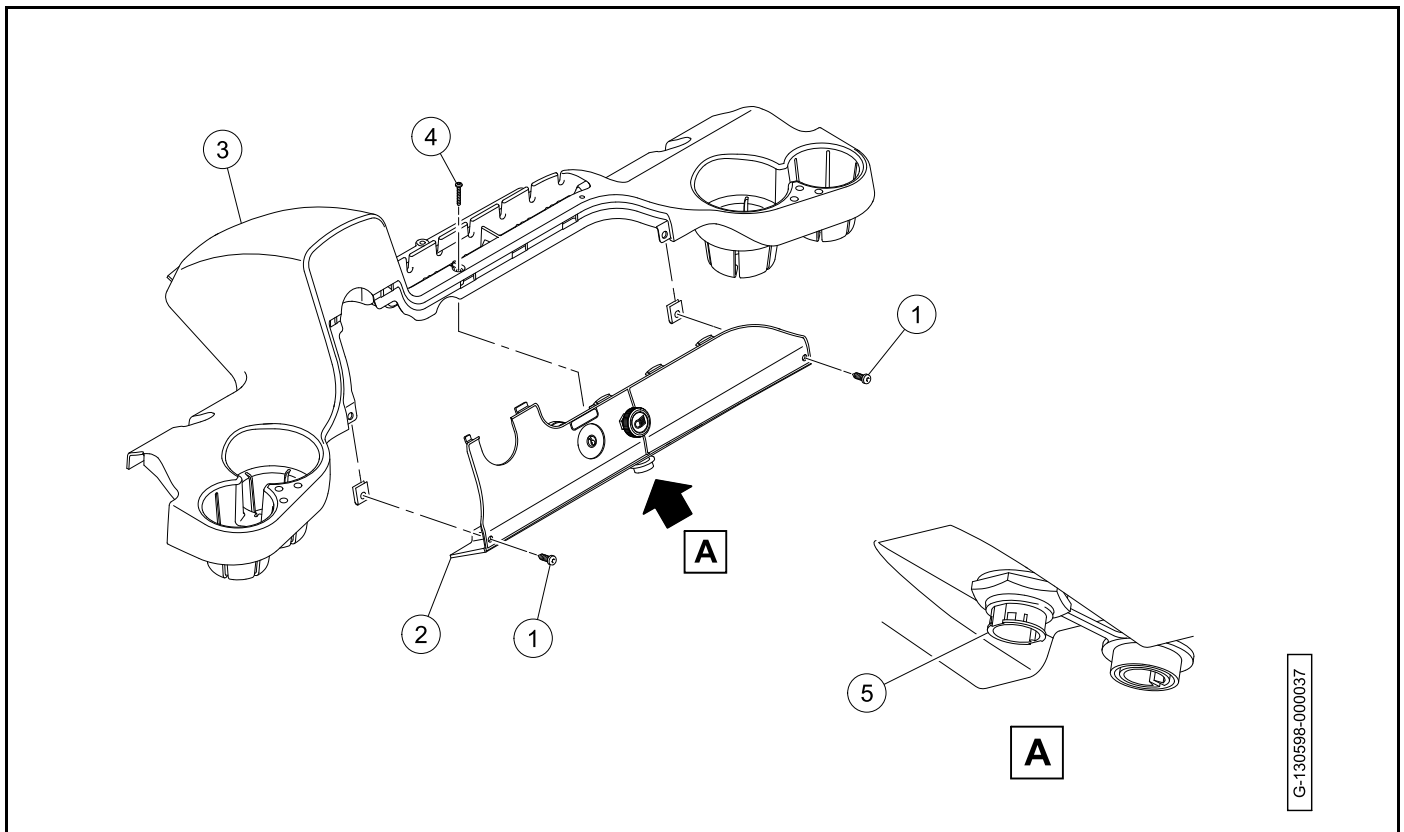

Figure 11-3
3. Remove the three screws (1 and 2) (Figure 11-3, Page 11-29).